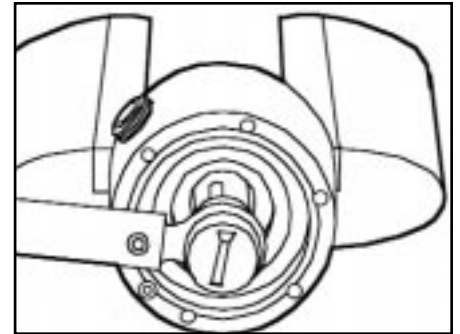

Figure 13
6. Now with a 9/16" socket wrench loosen the lower seat. Remove the lower seat, gasket, pilot plug and lower spring. (Fig. 13 & 14)